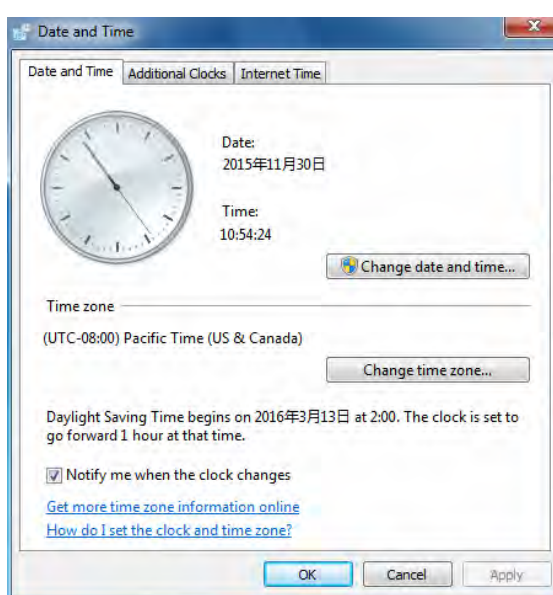

Figure 19: Date and time setting screen
- m) **Date Time:** Set the current date and time in the system-defined format. Click on **Date Time** to open up the settings screen **for the date and time** (see Figure 19). Click **Change date and time...** to enter the settings screen.